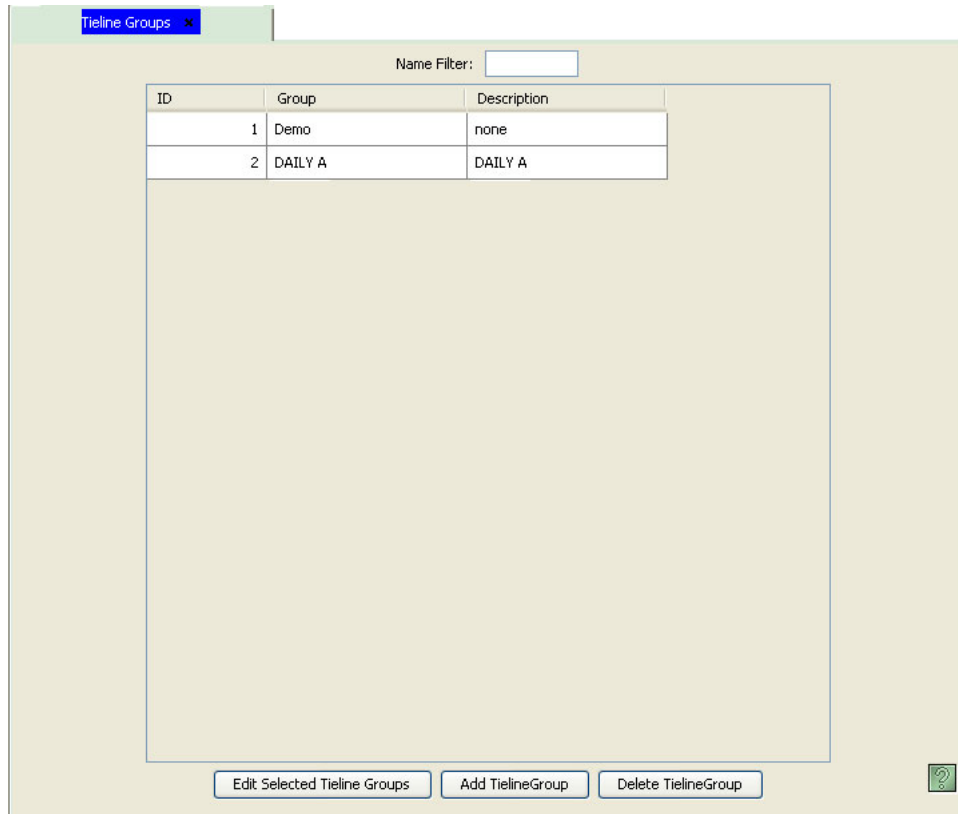

Figure 16-29. Tieline Group Page
- 2 From the Navigation area, select the 'Configuration' pane and then 'Tieline Groups'. The 'Tieline Groups' page displays, as shown in Figure 16-29. All tieline groups currently defined in the system are listed.